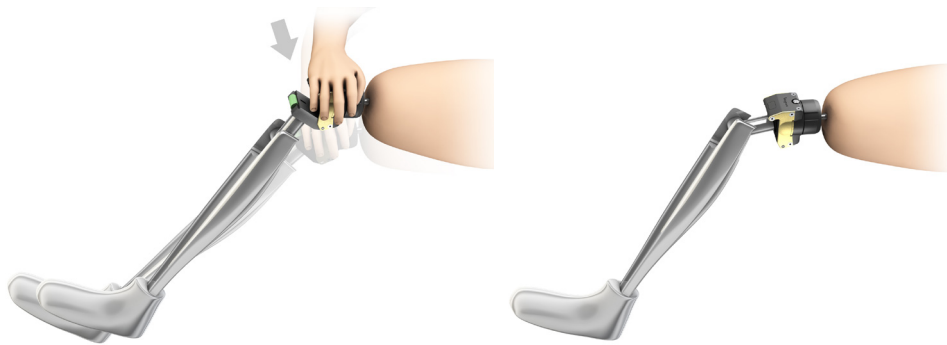

Figure 6. Resetting the Axor™ II after release in bending/flexion.
3. Press down on the Axor™ II according to Figure 6 until it clicks back into the correct position. A moderate to high force may be required.